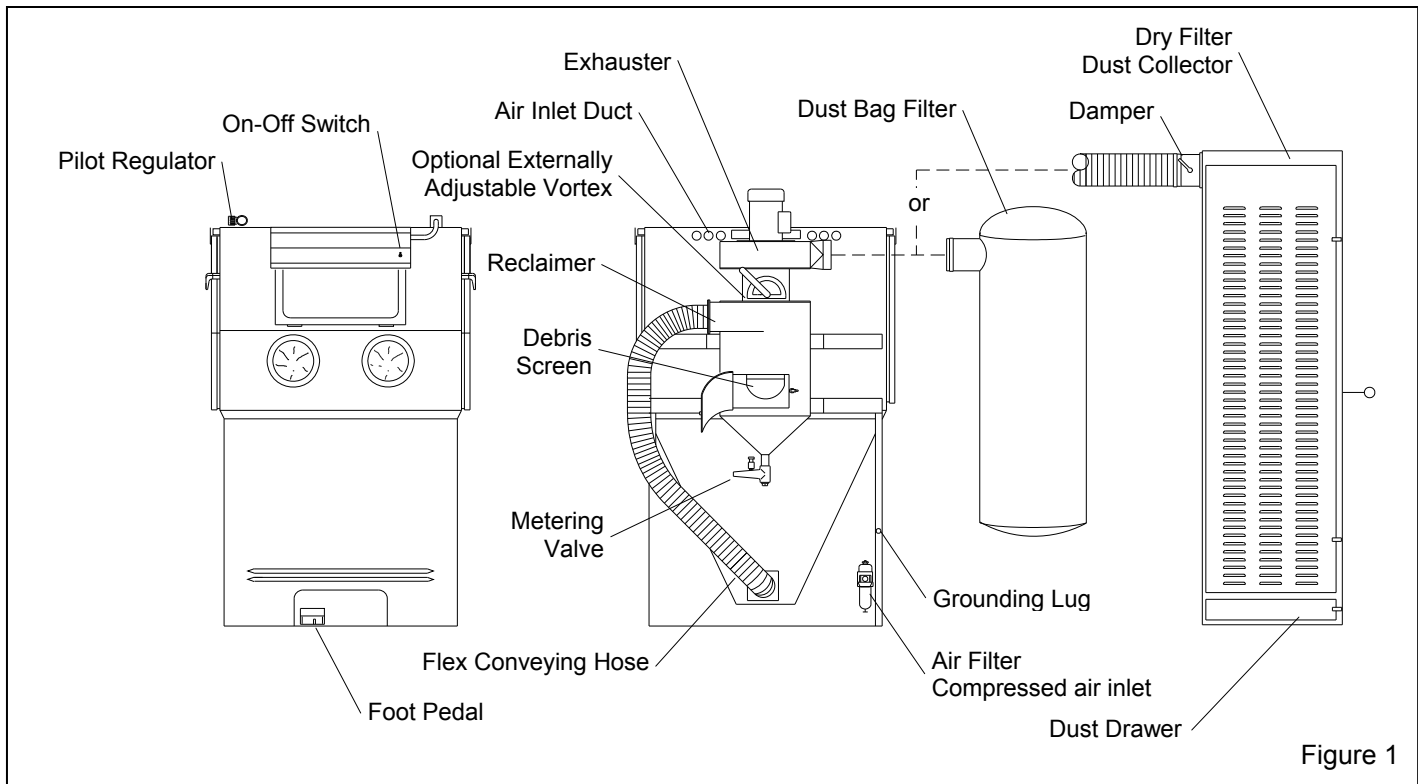
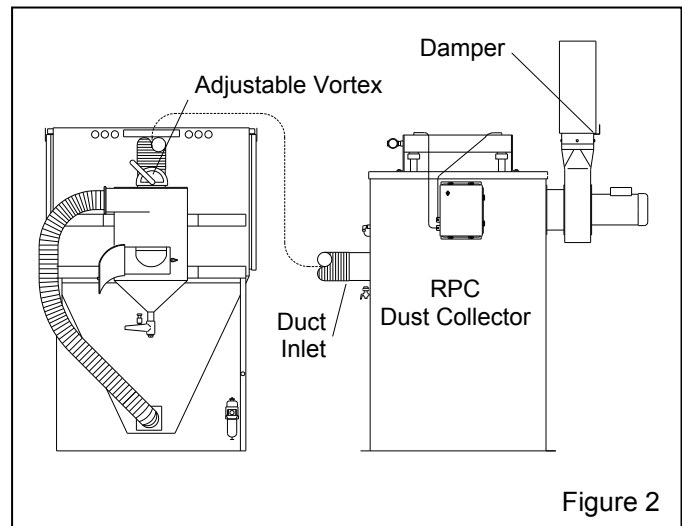

Figure 1
Figure 2
See Figure 1 for arrangement of components with a dry filter. Figure 2 shows the arrangement with a reverse-pulse dust collector.
**2.1.1** See Figure 1 (and Figure 2 for optional reverse-pulse collector) for the general arrangement. Place all components in a convenient location where compressed air and electrical service are available. The cabinet location must comply with OSHA and local safety codes. Allow for full access to all doors and service areas, and for efficient handling of large parts. Provide enough clearance in front of the dust collector to remove the dust drawer without tipping. Determine the best location, and position all units before final assembly.